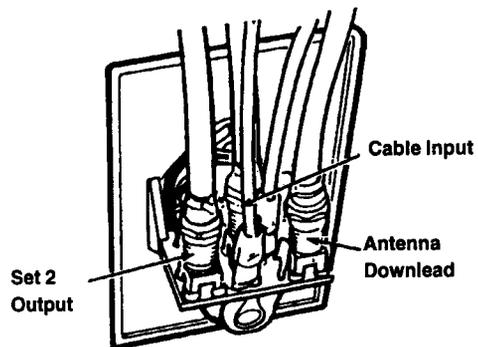

FIGURE 9
STEP 13: Install connectors on downlead, set 2 and cable input cables as shown on page 6. Attach downlead cable to jack on wallplate/power supply marked antenna as shown in Figure 9. Attach cable going to set 2 outlet to jack on power supply marked SET 2. Attach cable coming from cable input to jack on power supply marked CABLE.